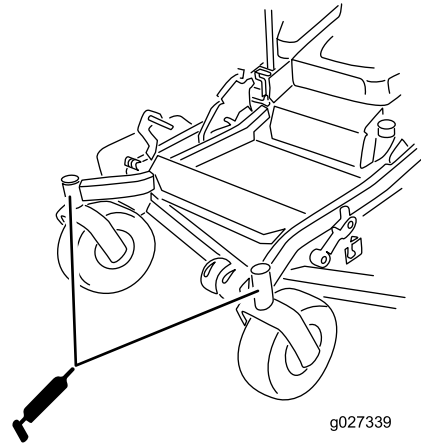

Figure 47
10. Install the hex plug and dust cap (Figure 47).
11. Grease the caster-wheel bearings (Figure 47).